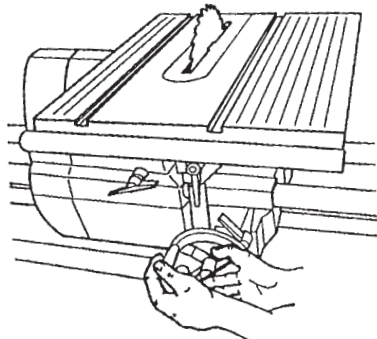

Figure B-62
24. Lower the worktable (but not all the way down) so the saw blade comes through the slot. Lock the table height, as seen in Figure B-62.